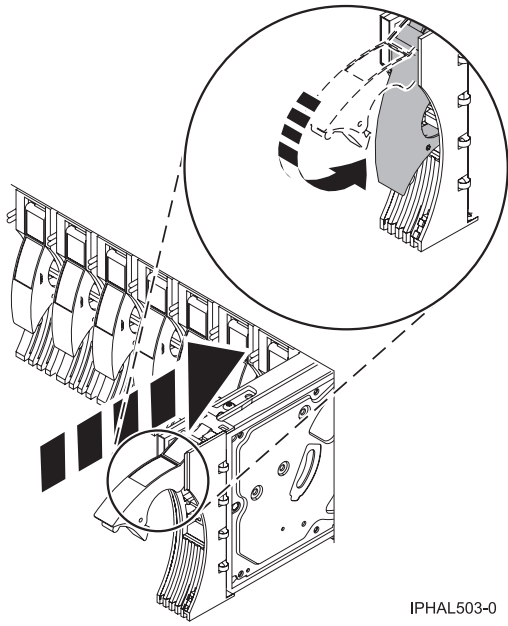

Figure 4. Installing a disk drive in a model
18. Slide the disk drive into the system unit until it stops, as shown in Figure 4 on page 14.